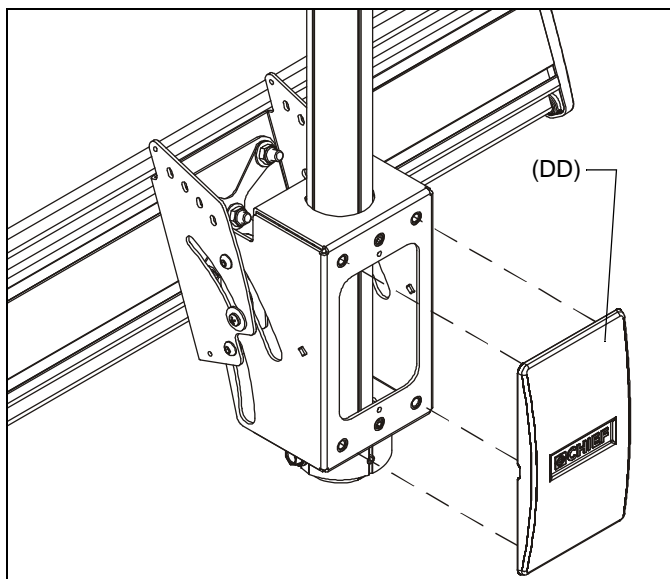

Figure 15
2. Install back cover (DD) into four holes on back of ceiling mount. (See Figure 15)